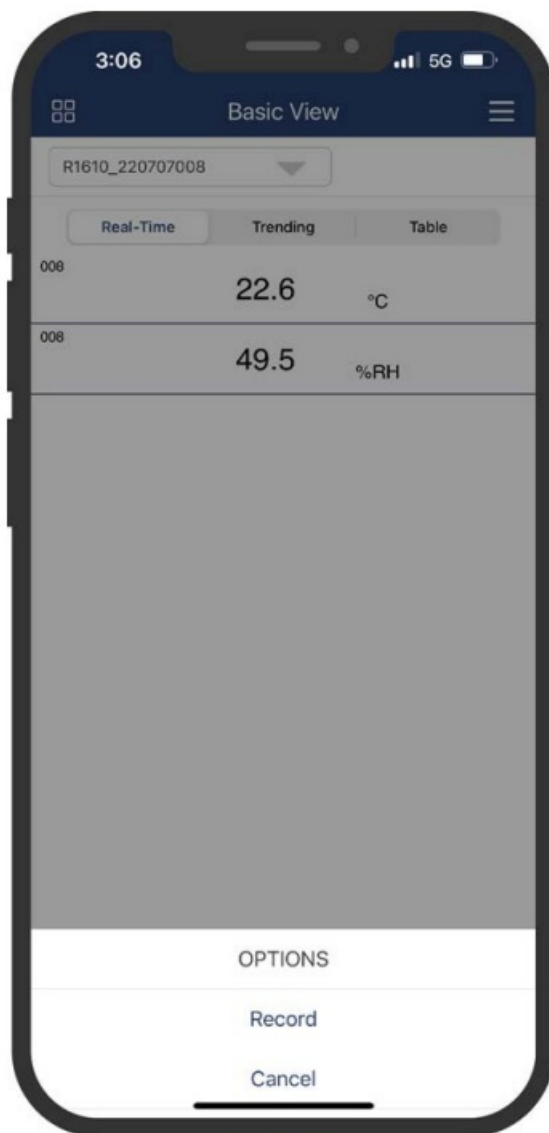

Figure 15
2. Tap on “Record” to proceed to the next screen or “Cancel” to resume normal operation. (Figure 15)